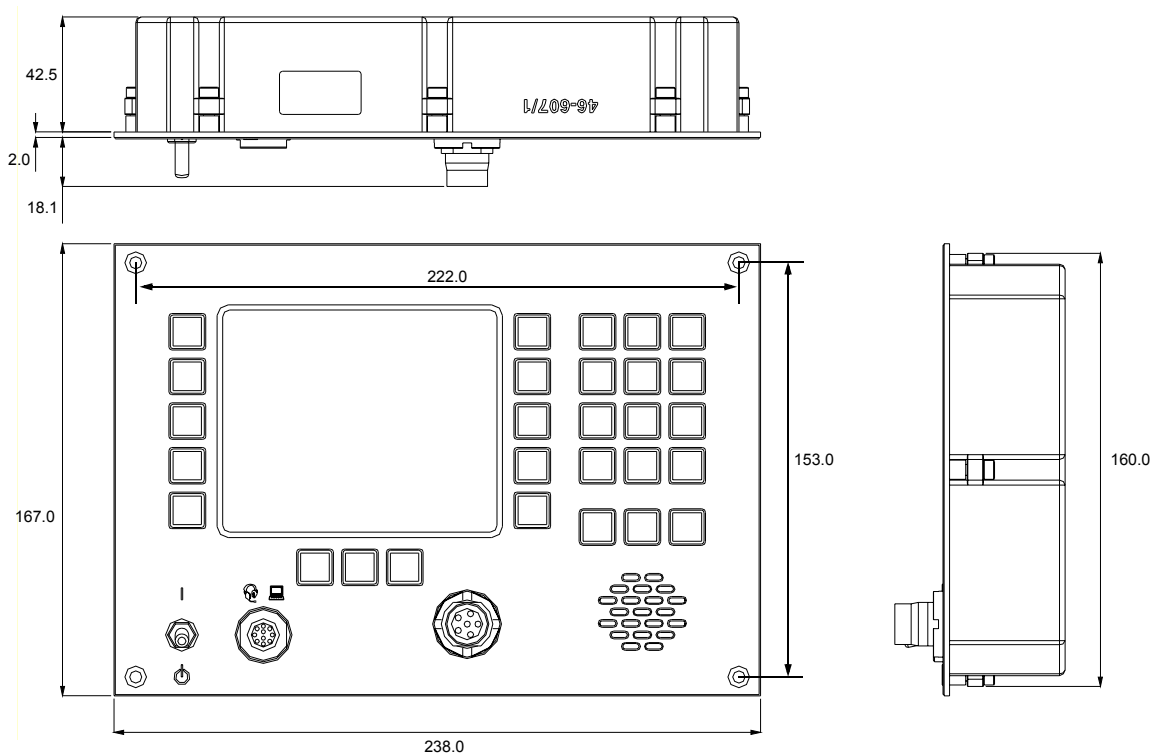

Fig 4-5 Control Head Dimensions
- (1) Refer to the Maintenance topic and remove the radio's Control Head. Remove and retain (for possible future use) the E1 and Supply cables that connected to the Control Head.
- (2) At the radio, fit a blank panel in place of the Control Head. A suitable blank panel is available from Park Air: part number 46-00000494.
- (3) Under local arrangements, fit the control head into the required operating position. Fig 4-5 shows dimensions of the Control Head.